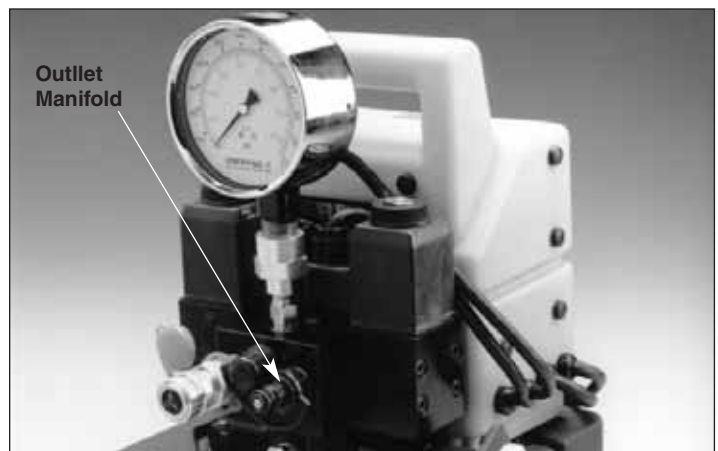

Figure 3, Pump Outlet Manifold
1. Couple hoses to pump outlet manifold shown in Figure 3. BE SURE to use hose marked “ENERPAC 800 SERIES - 800 BAR/11,600 PSI MAX”.